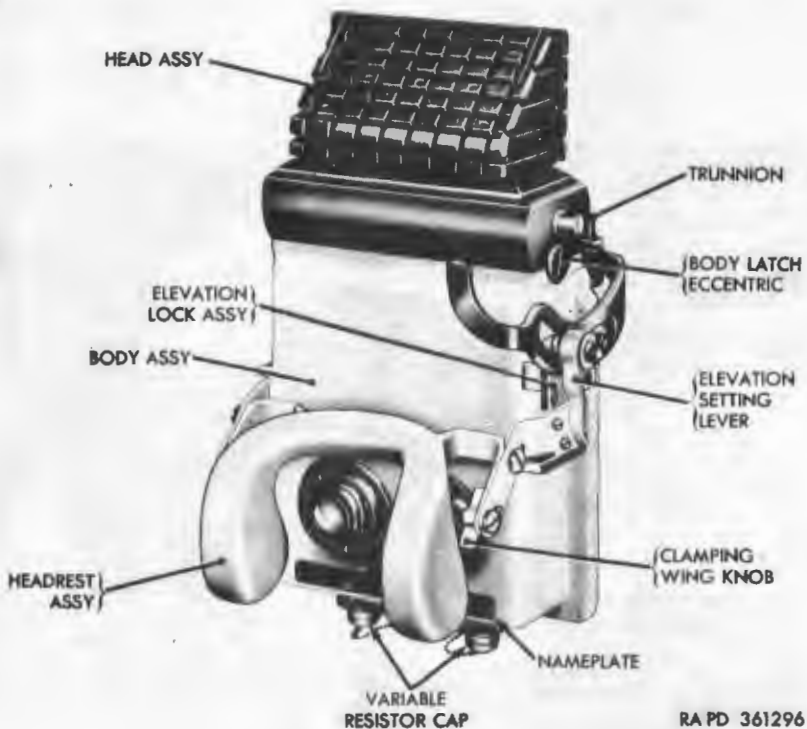

Figure 20. Periscope M19.
- (1) *Elevation setting lever* (fig. 20). Vertical line-of-sight adjustment is made by manually rotating the periscope
- (2) *Headrest clamping wing knobs* (fig. 20). An adjustable headrest provides support for the operator and adjustment of the distance from the operator's eyes to the eye-pieces. Two clamping wing knobs secure this adjustment.
- (3) *Focus*. Left and right focus controls, as indicated on the nameplate, are located on the bottom of the periscope M19 body assembly. These controls provide an **external** adjustment for the electrostatic focus and are **protected** by variable resistor caps (fig. 20) which screw onto the control receptacles.